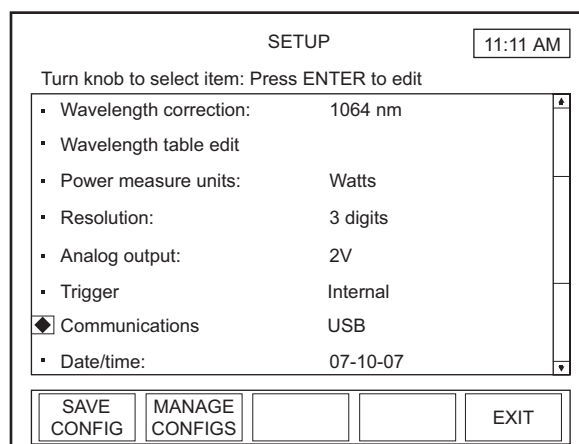

Figure 64. SETUP: Communications
1. On the main SETUP screen, turn the Selection knob to move the diamond indicator to Communications (Figure 64).